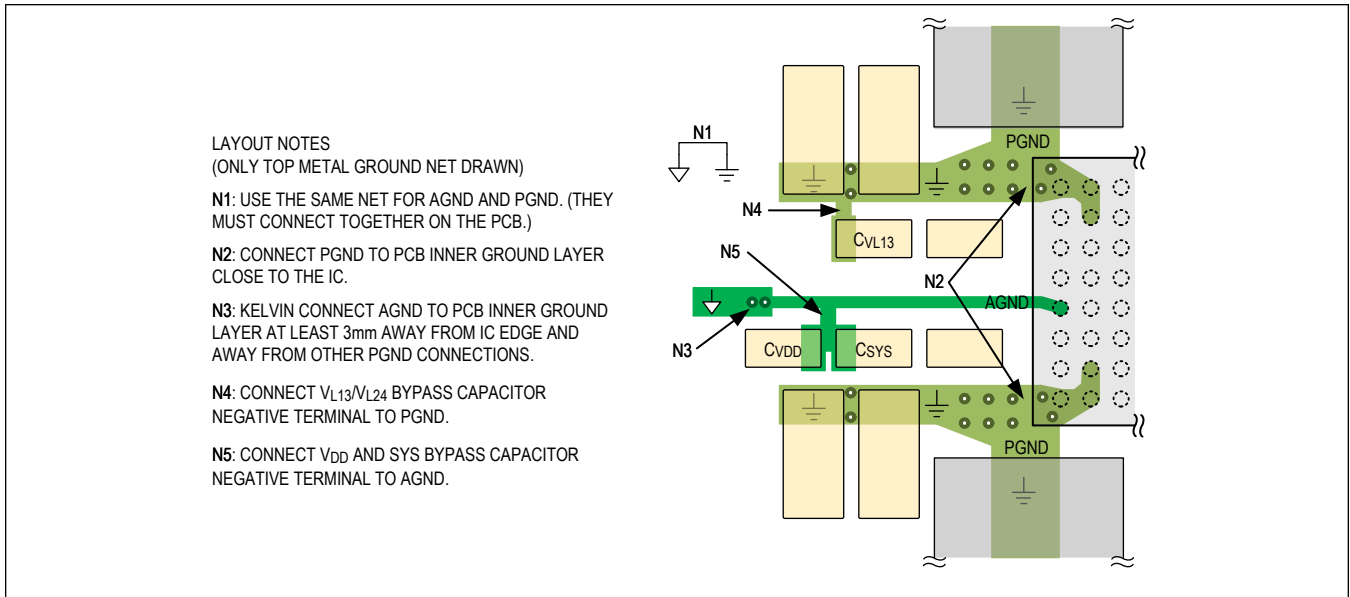

Figure 15. Recommended Ground Connection
9. AGND must carefully connect to PGND on the PCB's low-impedance ground plane. Kelvin connect AGND to the low-impedance ground plane on the PCB (the same net as PGND) at least 3 millimeters away from the ICs edge. See Figure 15 for an illustration.